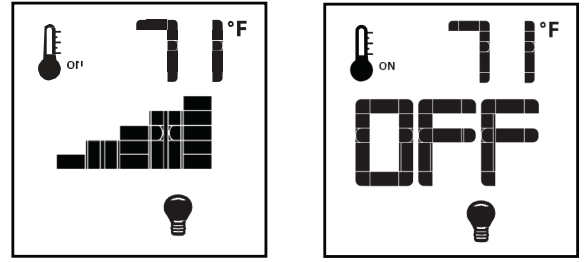

Figure 68: Dimmer light control.
The auxiliary function controls the AUX power outlet by the dimmable light control. To activate this function use the Mode Key (Figure 56) to index to the light bulb icon (Figure 68). The intensity of the output can be adjusted through six (6) levels. Use the Up/Down Arrow Keys (Figure 56) adjust the output level. A single “beep” will confirm reception of the command.